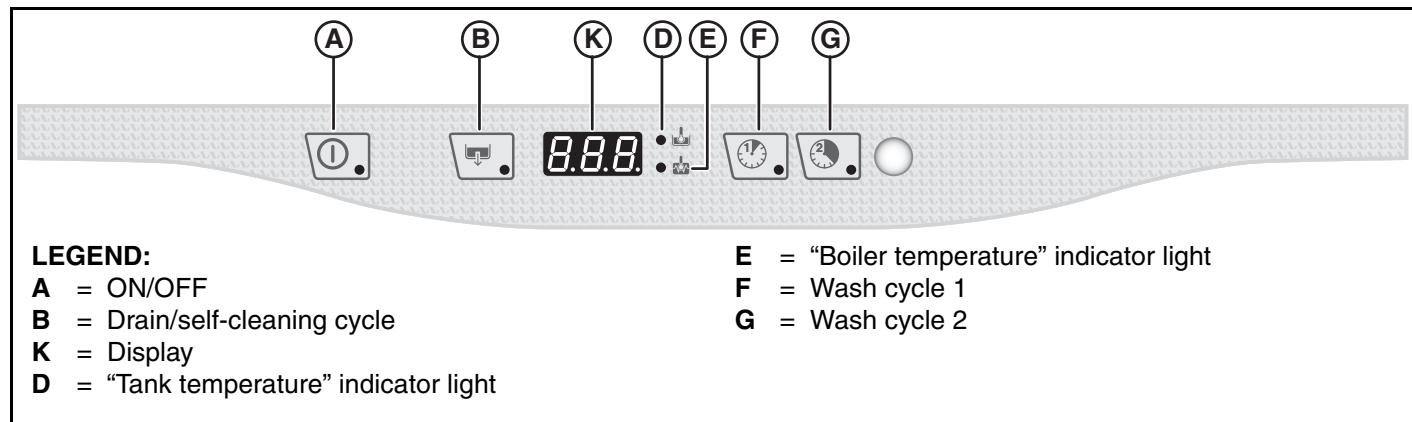

Figure 14
The indicator light of the ON/OFF button "A" (Figure 14) comes on, indicating that the dishwasher is powered and that water is being introduced and heated.
To display the boiler temperature during heating of the tank, open the door and press "F" button (Figure 14).
For lightly soiled dishes or glasses: press "F" button (Figure 14) (see table of times).
For normally dirty dishes: press "G" button (Figure 14) (see table of times).
- Select the drain cycle by pressing "B" button (Figure 14).
- Switch off the dishwasher by pressing "A" button (Figure 14).
Close the door and select the drain cycle by pressing the "B" button (Figure 14).
Switch off the dishwasher by pressing "A" button (Figure 14)
Press on/off "A" button (Figure 14).
Close the door and start the **Cycle II** by pressing "G" button (Figure 14). The wash cycle duration is 4 minutes.